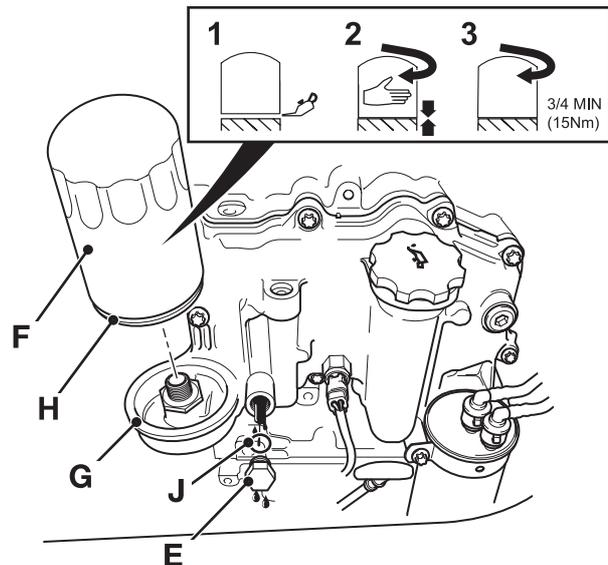

Fig 41.
- 4 Place a container of suitable size under drain plug **E** to catch the oil. ⇒ Fig 41. \(□ 3-46\).